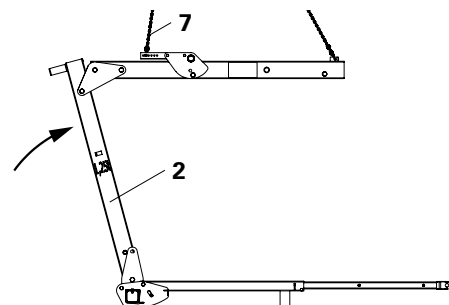

Fig. 14
2. Attach crane lifting gear to the lifting chain (7) and slowly hoist upwards until the vertical post (2) is perpendicular = working position. (Fig. 14)